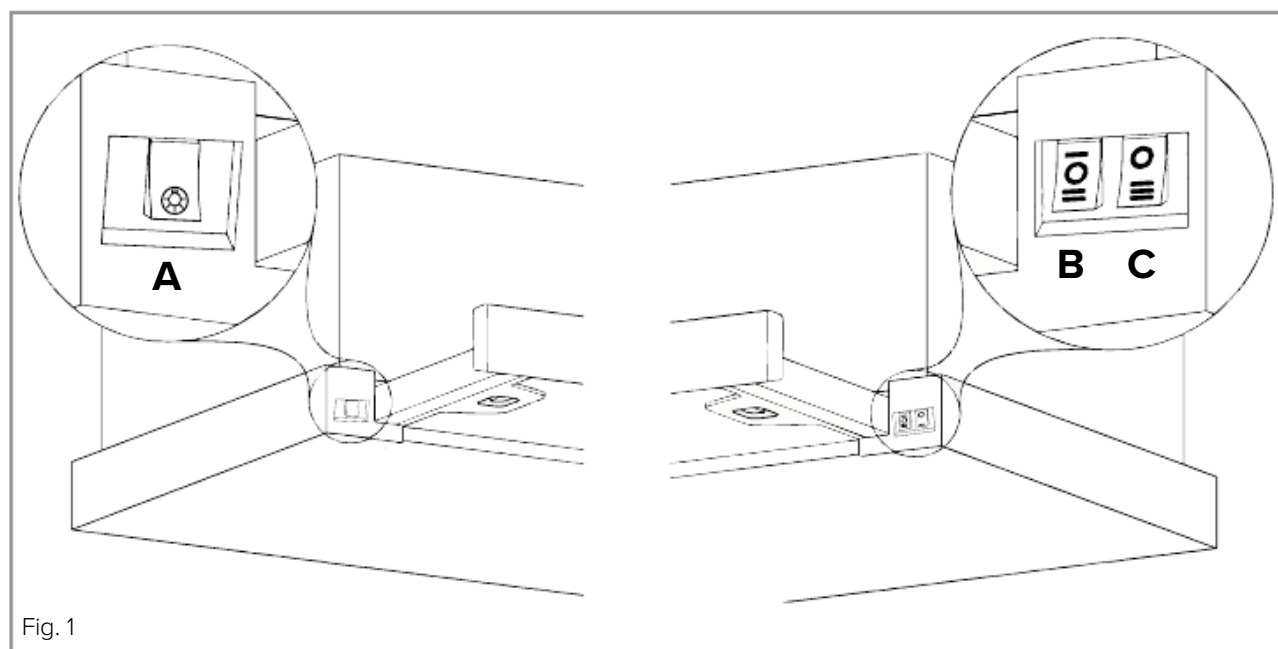

Fig. 1
Slide open the canopy and activate either switch B or switch C (Fig. 1). Switch B, the left speed switch, has three positions; speed 1, speed 2 and off. Switch C, the right speed switch, has two positions; speed 3 and off.
Slide open the canopy and activate the lamp switch (A). Fig. 1 shows the switch in the off position.